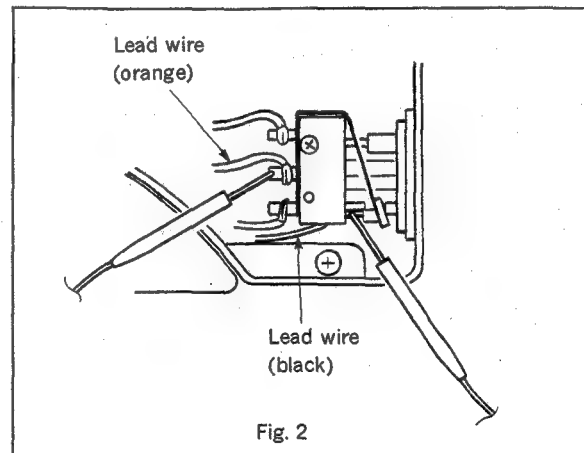

Fig. 2
6. Place the ends of the leads of the digital voltmeter on the pins of the DC IN connector, as shown in the Fig. 2, then adjust the DC power supply until the desired voltage is obtained.